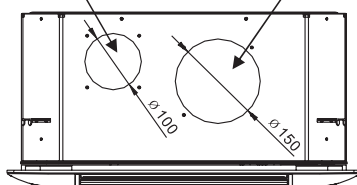

Fig 12
- Side openings are provided for installing separate ducts for outside air intake and treated air distribution to an adjacent room. (Fig 12)